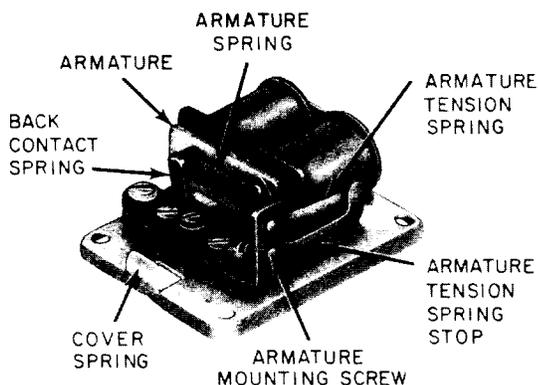
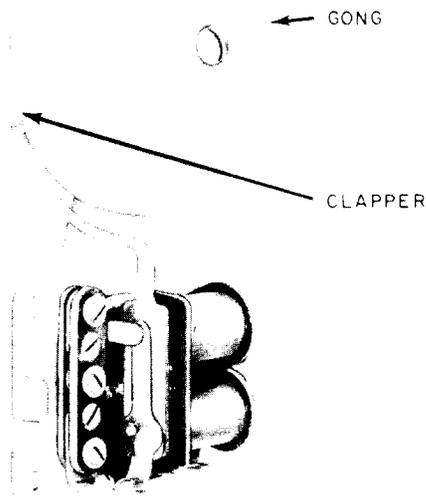

Fig. 1—7F Buzzer
Fig. 2—7-Type Bell
2.04 The 7F buzzer (A&M Only) (Fig. 1) and the 7-type bell (Fig. 2) have the same design features except the bell is equipped with a clapper and 3-inch gong.
2.07 The gong of the 7-type bell (Fig. 2) has its mounting hole drilled off-center. The eccentricity of the mounted gong provides for adjustment of the bell's volume by rotating the gong to increase or decrease the travel distance between the clapper and the gong.
- (e) The 7F buzzer (Fig. 1) may be mounted in any position. A preferable position for mounting on vertical surfaces is with armature hanging vertically from hinged end to reduce amount of dust settling on contacts.